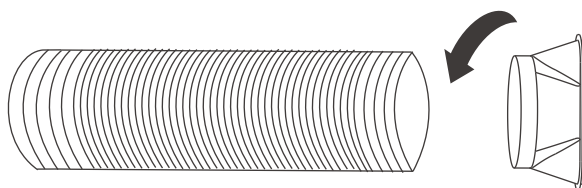

Fig.3
3. Extend the other side of the hose and screw it to the hose outlet (Fig.3).